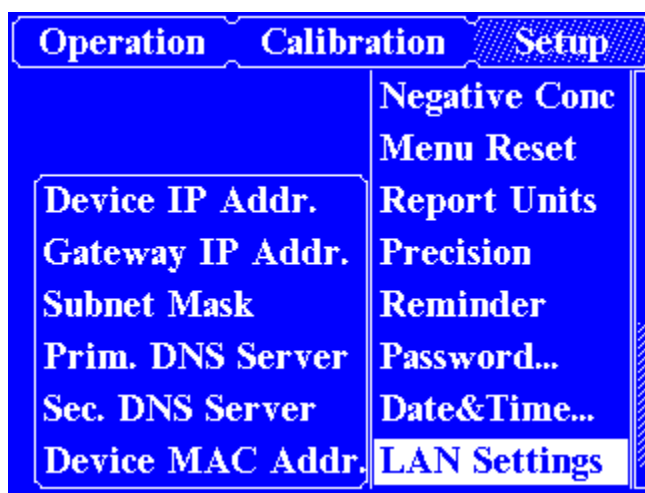

Figure 5-24. LAN Setup Screen
2. Use ← key to high-light an item and press Enter to select it. See figure 5-24.